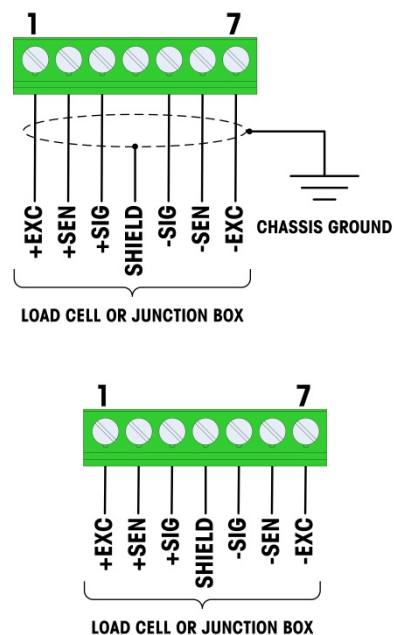

Figure A-19: Load Cell Termination, Chassis Ground (top) and Pin Ground (bottom)
Table A-4 and Figure A-19 show the terminal definitions for the analog load cell terminal strip. Note that when using four-wire load cells, jumpers must be placed between the +Excitation and +Sense terminals and between the –Excitation and –Sense terminals.
3. Connect the load cell wires to the connector on the motherboard. Refer to the wire color code of the load cell being connected, and Figure A-19.
5. The ferrite supplied with the terminal is placed over the end of the cable, and the wires connected to the load cell connector. Refer to the wire color code of the load cell being connected, and Figure A-19.
2. Place the ferrite over the end of the load cell cable, and attach the load cell wires to the connector on the motherboard. Refer to the wire color code of the load cell being connected, and Figure A-19.
7. Attach the load cell wires to the connector on the motherboard. Refer to the wire color code of the load cell being connected, and Figure A-19.